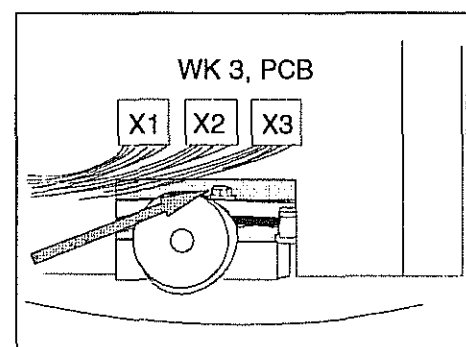

Fig 2, Use open ended spanner no. 7
- see Fig. 2 (and Z6-1) for centring of the image use the two nuts (one nut can be reached underneath WK4)